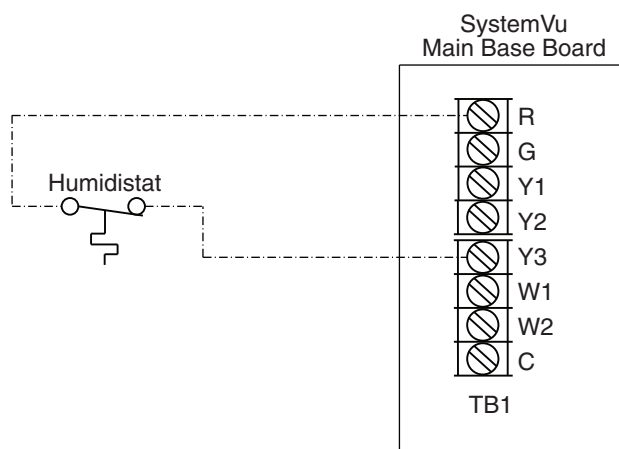

Fig. 38 — Humidistat Connections to MBB
3. Connect one of the leads from the 2-conductor cable to the HUM terminal on the SystemVu MBB. Connect the other lead to the R terminal on the UCB. See Fig. 38.